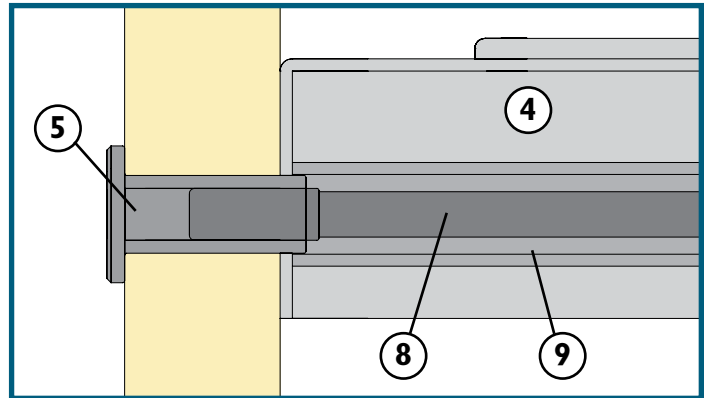

Fig. 3 - Step cross section
2. Glue Wood Spindle (3) into place. Align two Step Tubes (9) with the mounting holes in the underside of a Stamped Steel Step (4). Position this assembly between the ladder rails, thread a Cap Nut (5) on to one end of the step rod (8) and insert through the outside of the wood rail and through the step tube until you are able attach the other Cap Nut (5) on the opposite side. Do not fully tighten until all steps are installed. **Fig. 3**.
3. Drill holes and mount the Heavy-duty Rubber Feet (7). Attach using the  $\frac{1}{4}$ -20 x 35mm Connector Bolts (11) and  $\frac{1}{4}$ -20 Acorn Nuts (10).